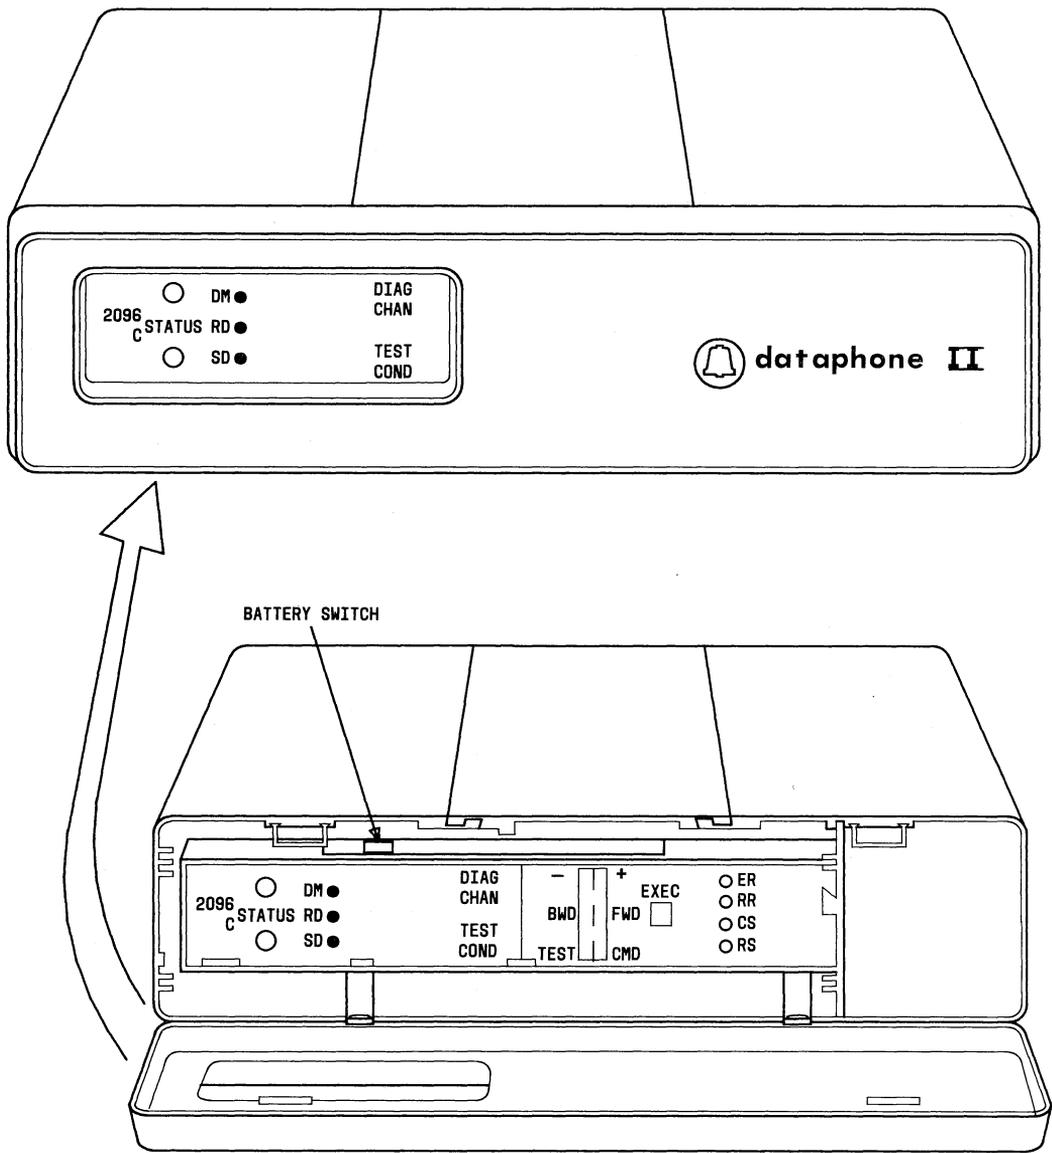

Fig. 1—63A-Type Data Mounting With DS 2096C Installed
1.01 This section contains the information needed to install and connect private line version DATAPHONE® II data set (DS) 2096C. Refer to Fig. 1. The data set should be installed in conformance with the general instructions given in Section 590-010-200. The information in this section covers the installation of data sets in both individual mountings stand-alone (Fig. 2) and multiple mountings (Fig. 3). The stand-alone installation is described first. The similarities between stand alone and multiple will be referenced instead of repeated.